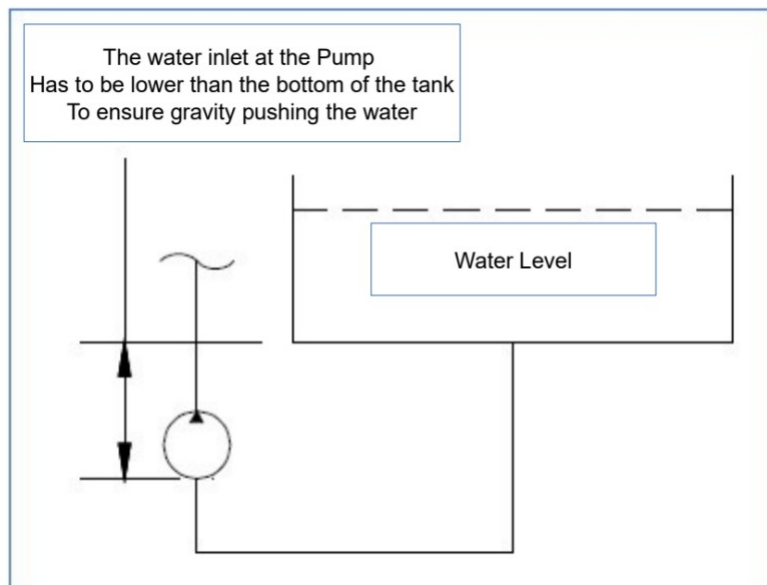

Figure 4.3 – Gravity Feeding Source
- Gravity feeding water source (See Figure 4.3). Use a hose with a diameter of at least 1-1/2” to connect the water tank to the power unit water inlet.
Ensure that the water source can reliably deliver the maximum pump flow of 30 GPM (115 LPM). A minimum flow of 40 GPM (150 LPM) is recommended to ensure that the pump is not starved of water. If connecting to a gravity feed tank, locate the tank outlet above the water inlet connection on the power unit to ensure a flooded suction line. (See Figure 4.3).